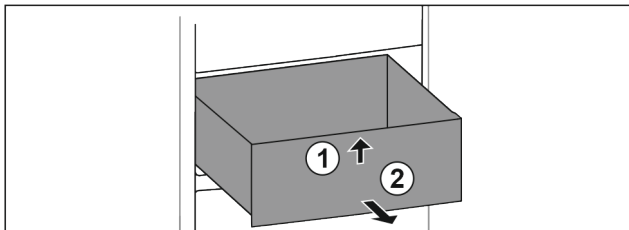

Fig. 58
- ▶ Lift up drawer at the front. Fig. 58 (1)
- ▶ Remove drawer to the front. Fig. 58 (2)